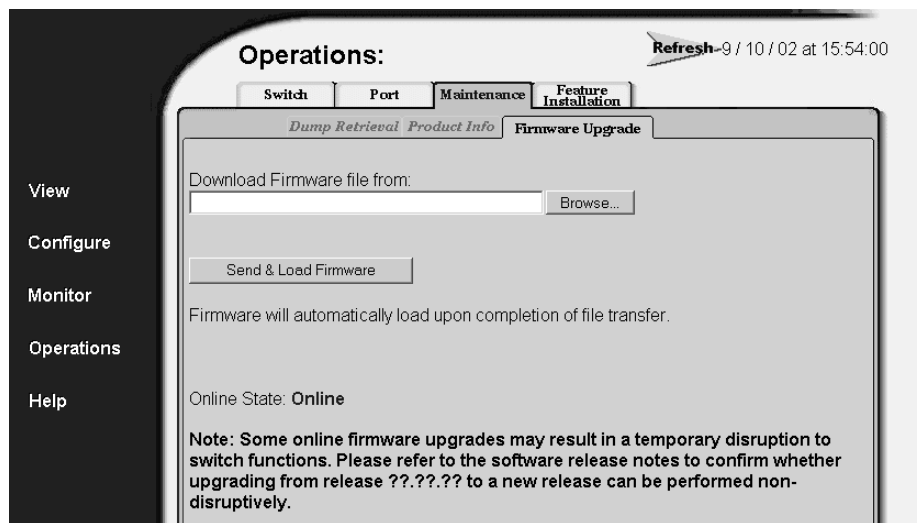

Figure 45: Upgrading firmware
1. Choose the **Maintenance** tab from the **Operations** page, and then choose the **Firmware Upgrade** tab to upload and upgrade firmware. The **Firmware Upgrade** tab view displays (Figure 45).